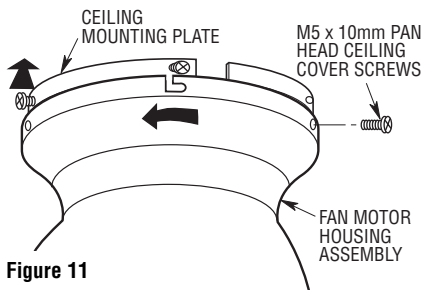

Figure 11
- 4. Remove one of the four screws in the ceiling mounting plate and loosen the remaining three screws (Figure 11).
- 5. Unhook the fan motor housing from the ceiling mounting plate hook and lift the fan motor housing assembly up to the ceiling mounting plate. Align and engage the motor assembly slots with the three screw heads previously loosened by rotating the fan motor housing assembly clockwise. Install the previously removed M5 x 10mm screw and secure the assembly to the plate (Figure 11). Completely tighten all four screws.